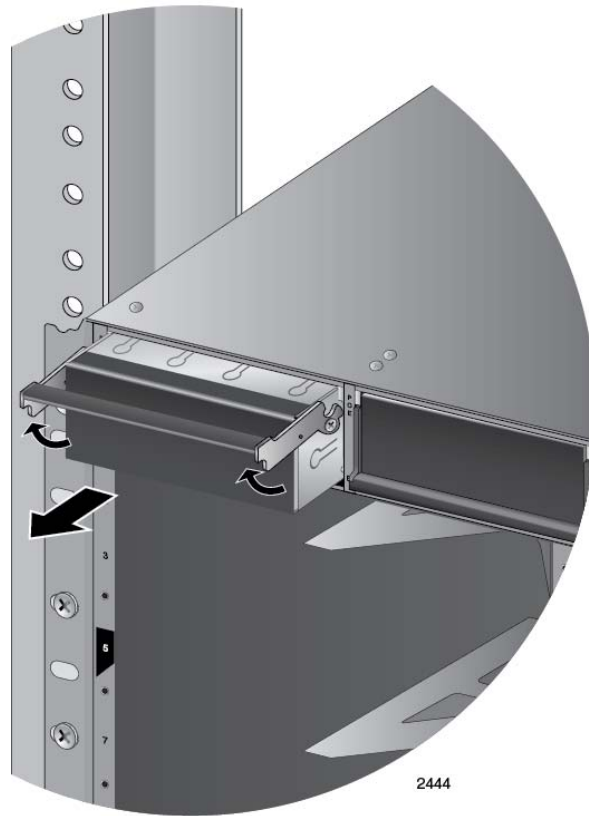

Figure 51. Removing the Blank Slot Cover from Power Supply Slot A
2. Raise the handle on the blank panel covering the selected slot and slide the panel from the chassis. Figure 51 on page 116 illustrates the removal of the blank panel from slot A.